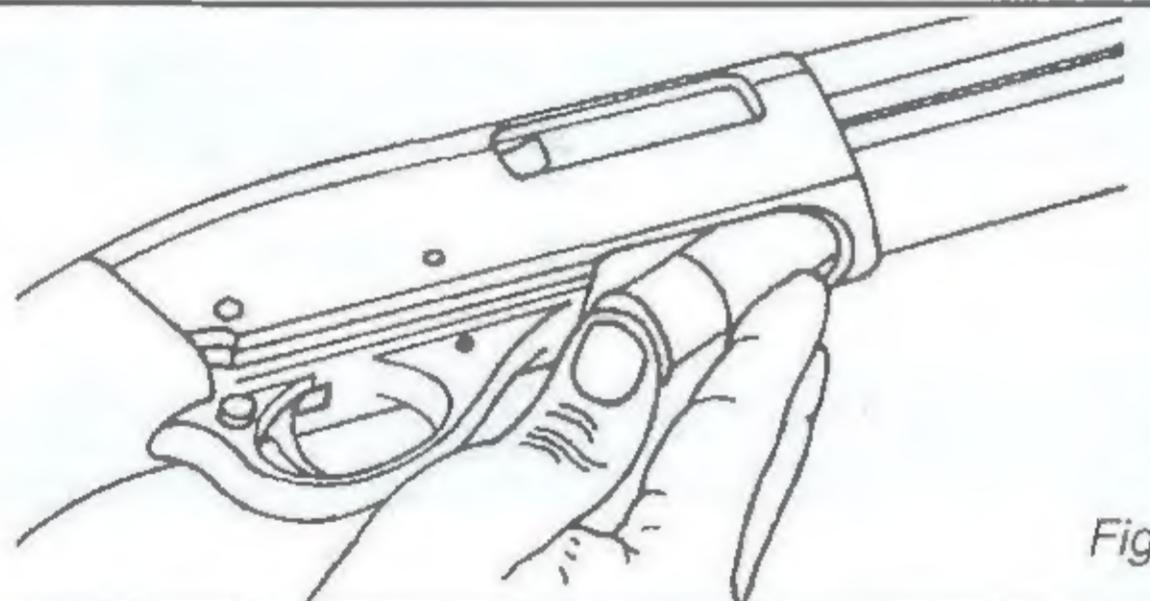

Fig. 6
2. To fill the magazine, press the shell against the carrier. See Fig. 6.